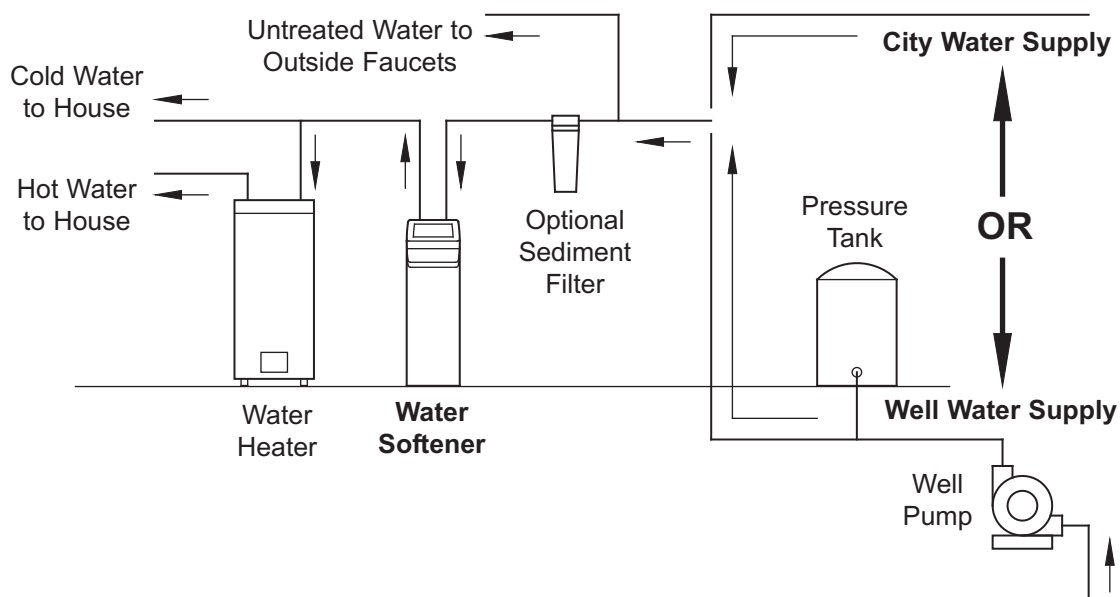

FIG. 5
- Always install the water softener between the water inlet and water heater. Any other installed water conditioning equipment should be installed between the water inlet and water softener (See Figure 5 below).